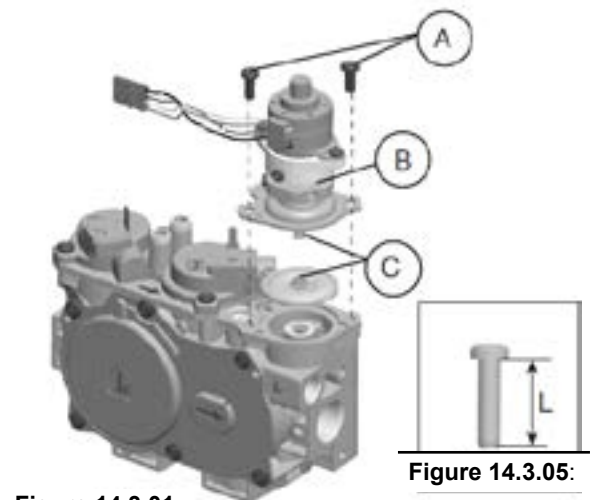

Figure 14.3.01:
- Pressure regulator assembly (E)
- Two (2) screws (F)
- Identification label (G)
2. See **Figure 14.3.01**. Using a Torx T20, or slotted screwdriver, remove and discard the two (2) pressure regulator mounting screws (A), pressure regulator tower (B), and the spring and diaphragm assembly (C), (If applicable).